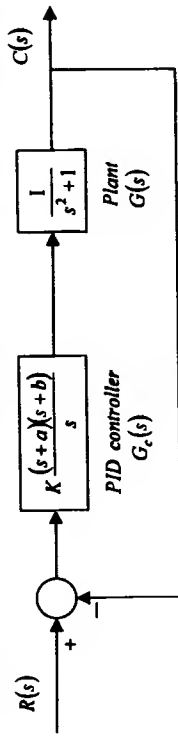

Fig. 1.
- Consider the system shown in Fig. 1. It is desired to design a PID controller $G_c(s)$ such that the dominant closed-loop poles are located at $s = -1 \pm j\sqrt{3}$. For the PID controller, choose $a = 1$ and then determine the values of K and b . Sketch the root-locus diagram for the designed system.